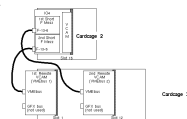
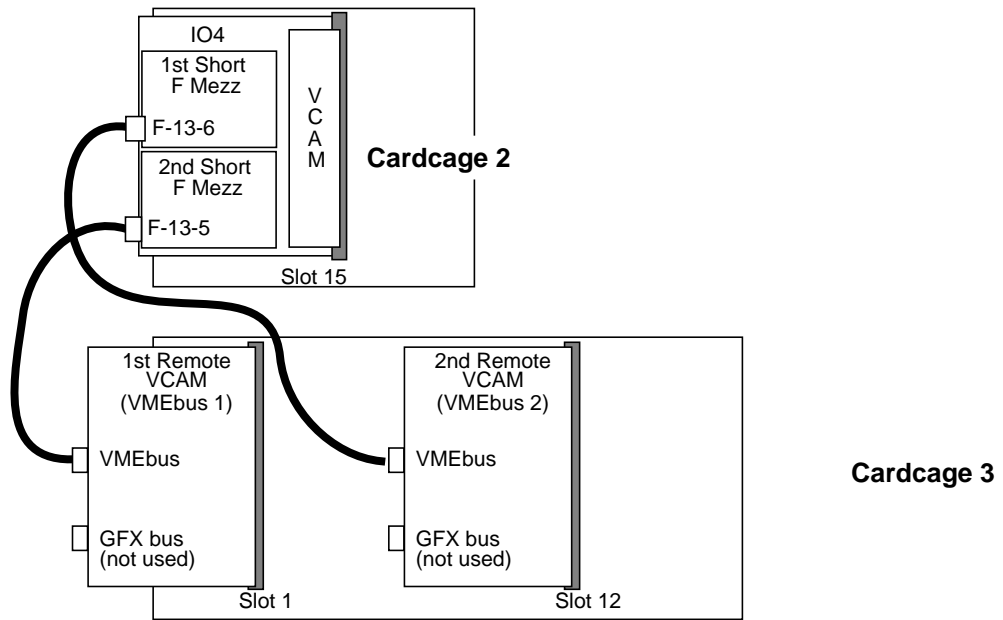

Figure 3-69 Cabling for Two Cardcage 3 VMEbuses with Two Short F Mezz Cards
Figure 3-70 Cabling for Two Cardcage 3 VMEbuses with Two Short F Mezz Cards
6. Attach a silver mylar ribbon cable to each of the IO4 board connectors as shown in Figure 3-69 and Figure 3-70. Route the cables from CC2 down through the cable ports immediately behind the main I/O panel. Attach the remaining end of the cables to the upper connector on each of the Remote VCAM boards.